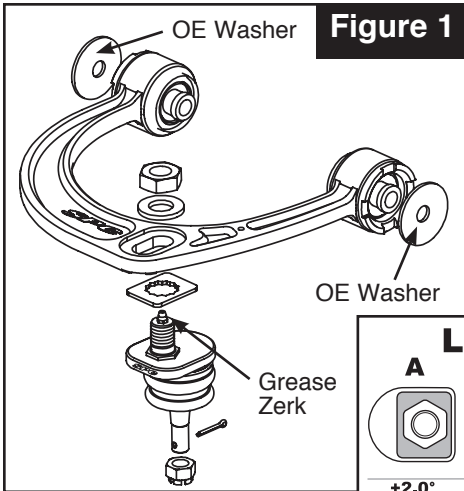

Figure 1
5. Install the SPC control arm to frame using OEM hardware. Use factory flange washers in original positions. Be sure to install washers so outer flange is spaced away from bushing bumpers, not tight against them. (Figure 1).